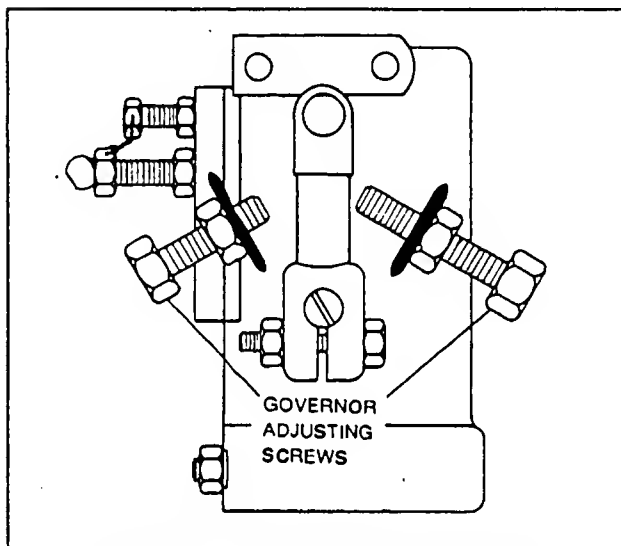

Figure 1. Engine Governor Adjustment
5. If no-load AC frequency is high or low, adjust the engine governor as follows Figure 1):